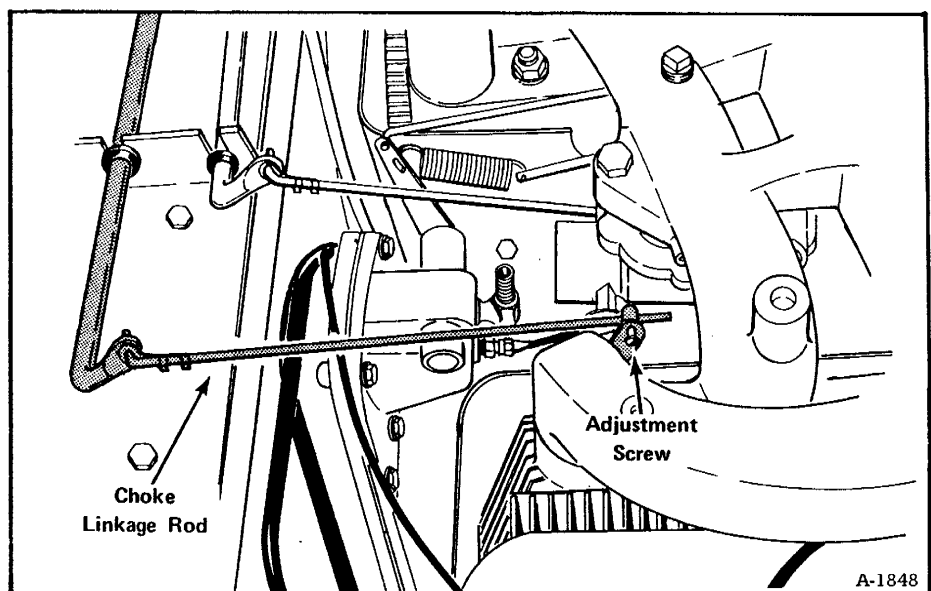

Fig. 1-18 Choke Adjustment
- (1) Loosen the adjustment screw at the engine (Fig. 1-18).
- (2) Hold the choke control knob about  $1/8''$  (3 mm) from full-choke position.
- (3) Hold the choke on the carburetor completely closed, then tighten the screw.